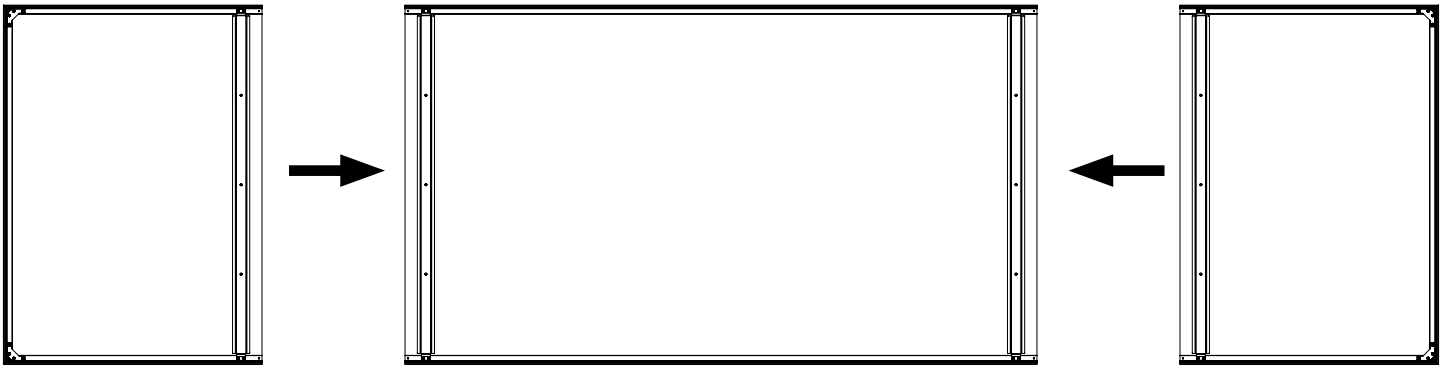
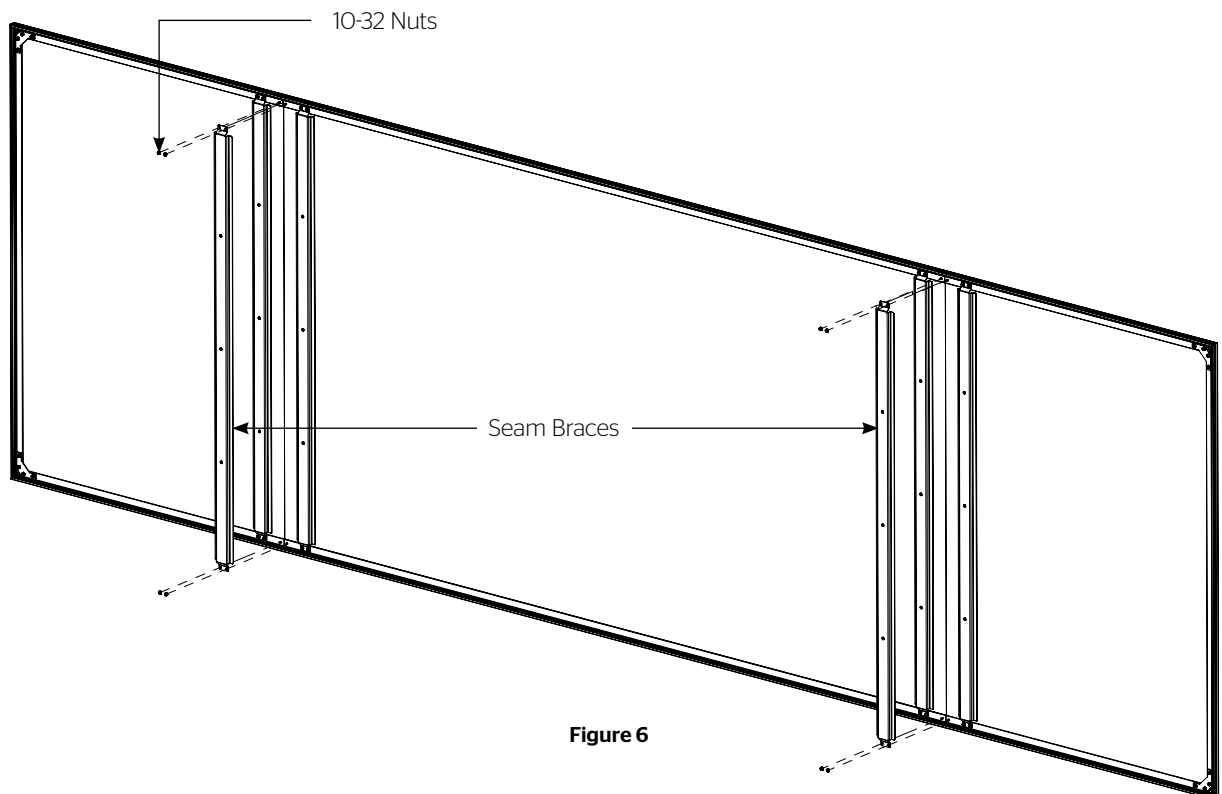

Figure 5
Figure 6
2. Slide all three panels together, aligning the both the top and bottom frames (Figure 5).
3. Find (1) seam brace and remove the release liner from both strips of adhesive tape.
5. Use  $\frac{3}{8}$ " open wrench or socket driver and (4) 10-32 nuts to attach seam brace onto the studs on the top and bottom of screen frame at the panel seam. Tighten all four nuts once attached to the frame (Figure 6).